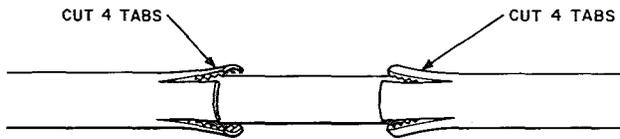

Fig. 5—Tab Cuts
(3) After repairs have been made, tab each end of sheath opening, cutting through polyethylene and metal layers. Remove any slivers of metal, taking care not to damage the core (Fig. 5).